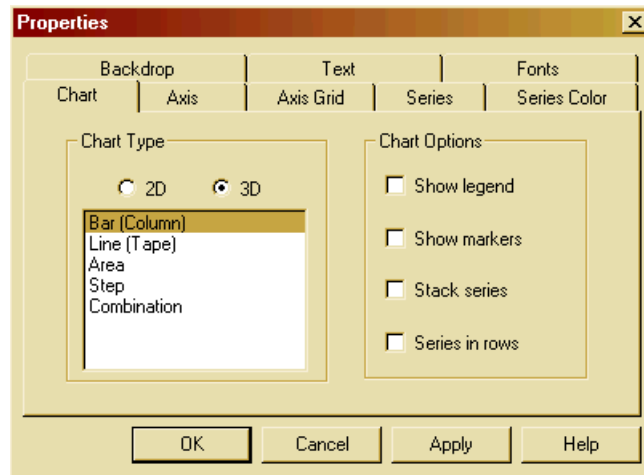

Figure 243. The Properties Dialog Box (showing MSChar20Lib.MSChart.2)
8. Properties dialog can be opened if available for an ActiveX, by clicking the **Properties** button, see Figure 243.